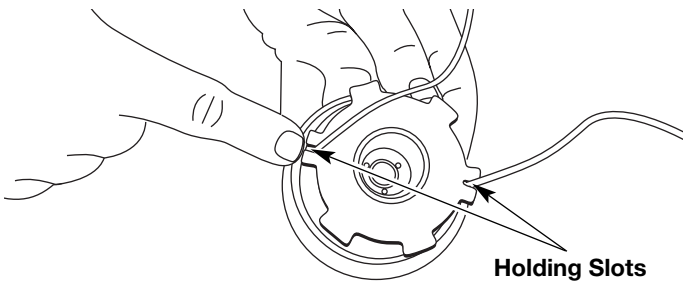

Fig. 30
12. Insert the ends of the line into the two holding slots (Fig. 30).